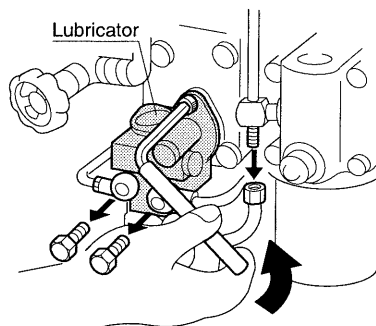

Fig. 45
- (1) Replace the lubricator at every 8000 hours of operation.
- (2) Replace the lubricator as illustrated in Fig. 45.
- (3) As quantity of oil supply has been adjusted to appropriate quantity before shipment, basically do not change it. But when reconditioning becomes necessary ask for its details to compressor manufacturer.